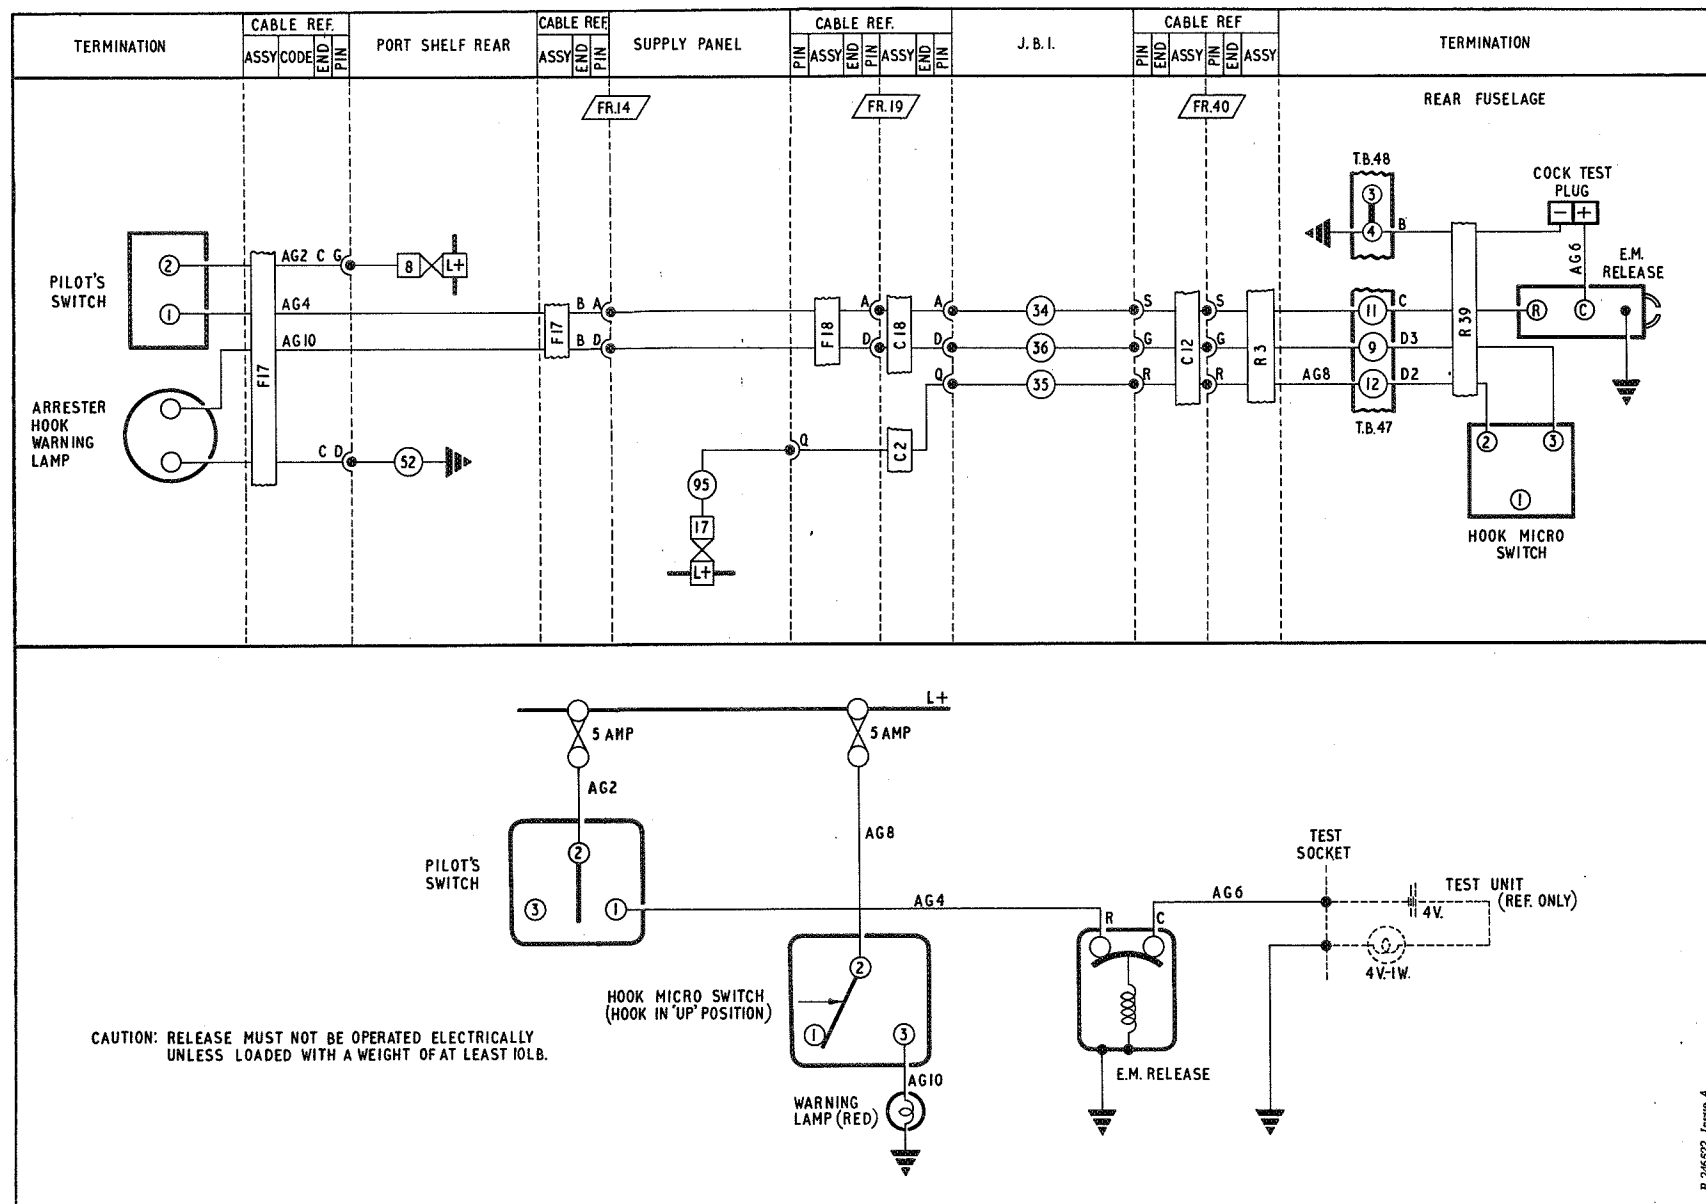

Fig.1 Arresting hook control (routeing and theoretical)
4. The circuit (fig.1) illustrates the condition found when the arresting hook is in the up position and the release unit locked, i.e. the normal flight condition. If during landing, the selector switch is moved to the DOWN position, the release unit solenoid coil will be energized and open the jaws retaining the arresting hook. When the jaws open, the solenoid coil is de-energized by the opening of the release unit feed switches, which are actuated by the jaw mechanism within the release unit. The hook is thus released and moves to the down position under gravity and the assistance of the damper.